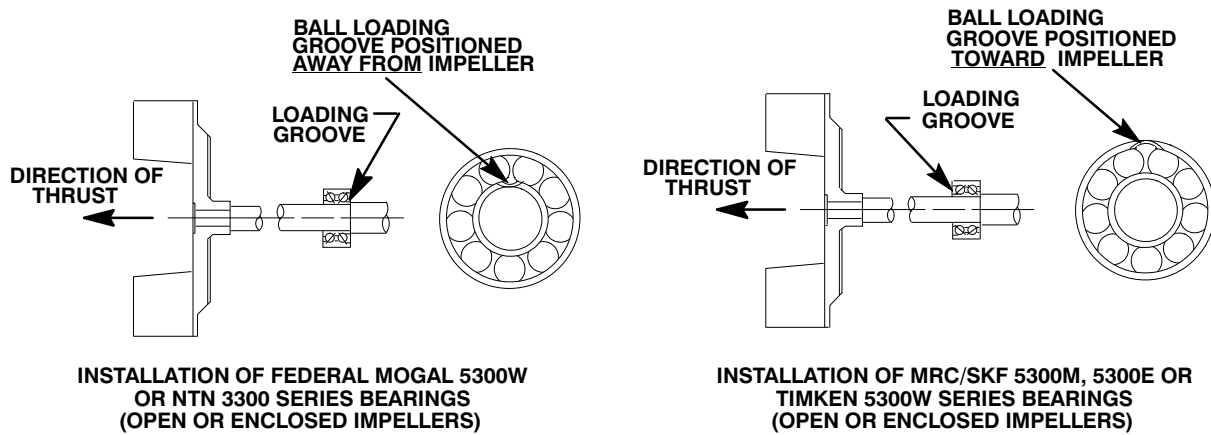

Figure 5. Inboard Bearing Positioning
Position the inboard bearing (47) on the shaft as indicated in Figure 5.
Install the shaft key (41, Figure 3) in the shaft keyway. Position the flexible portion of the coupling assembly (3) on the shaft as shown in Figure 5.